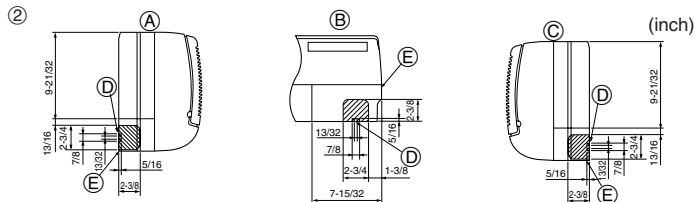

Fig. 4-3
② Determine the position of the knockout holes on the unit body. (Fig. 4-3)